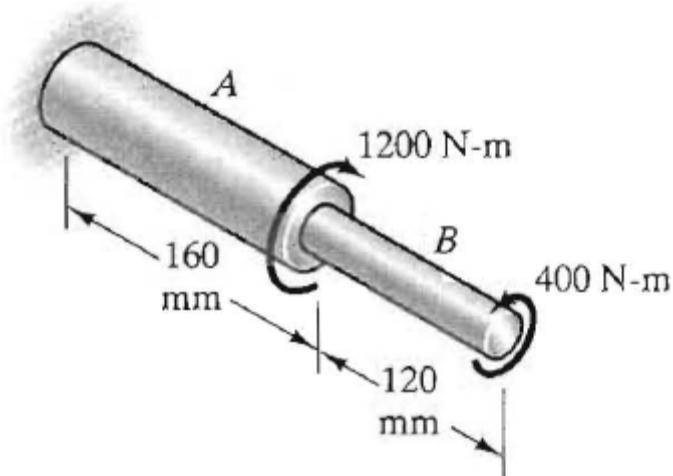

Figure Q1[a]
- Q1. [a]** The solid shaft with shear modulus of elasticity, $G = 28 \text{ GPa}$ is used to transmit the torques applied as shown in Figure Q1[a]. Part A is 40 mm diameter and part B is 20 mm diameter.